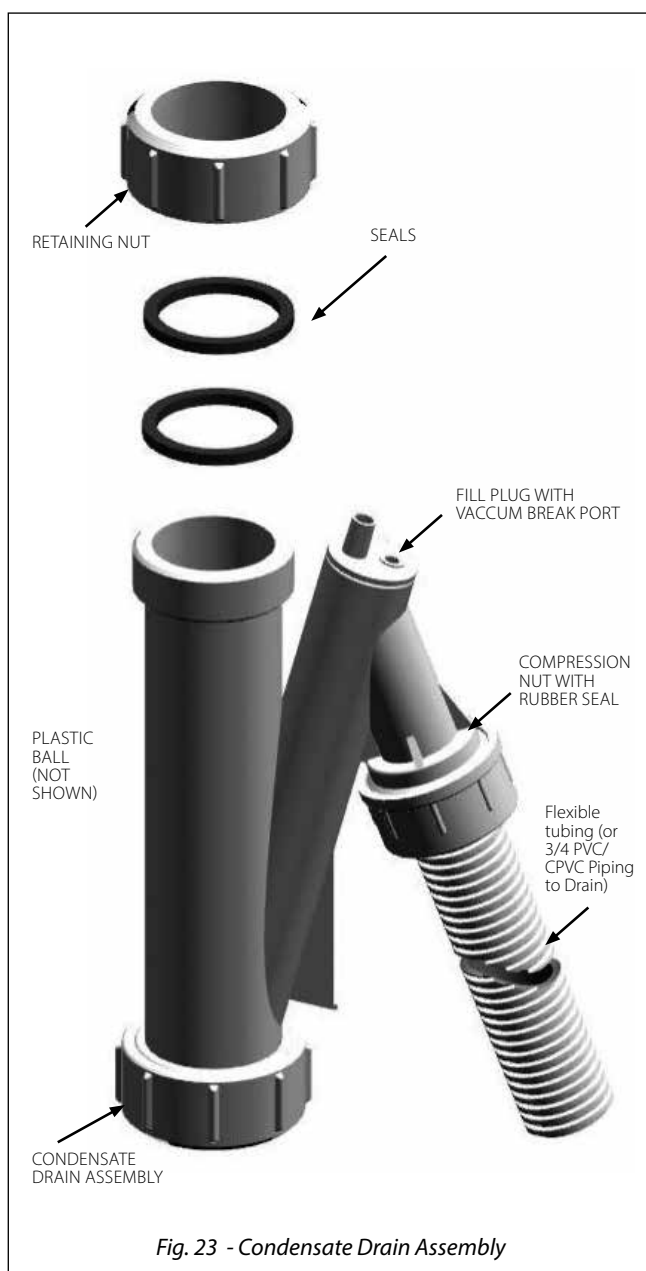

Fig. 23 - Condensate Drain Assembly
1. Locate the condensate drain assembly and ensure the seals are installed as shown in *Fig. 23*.